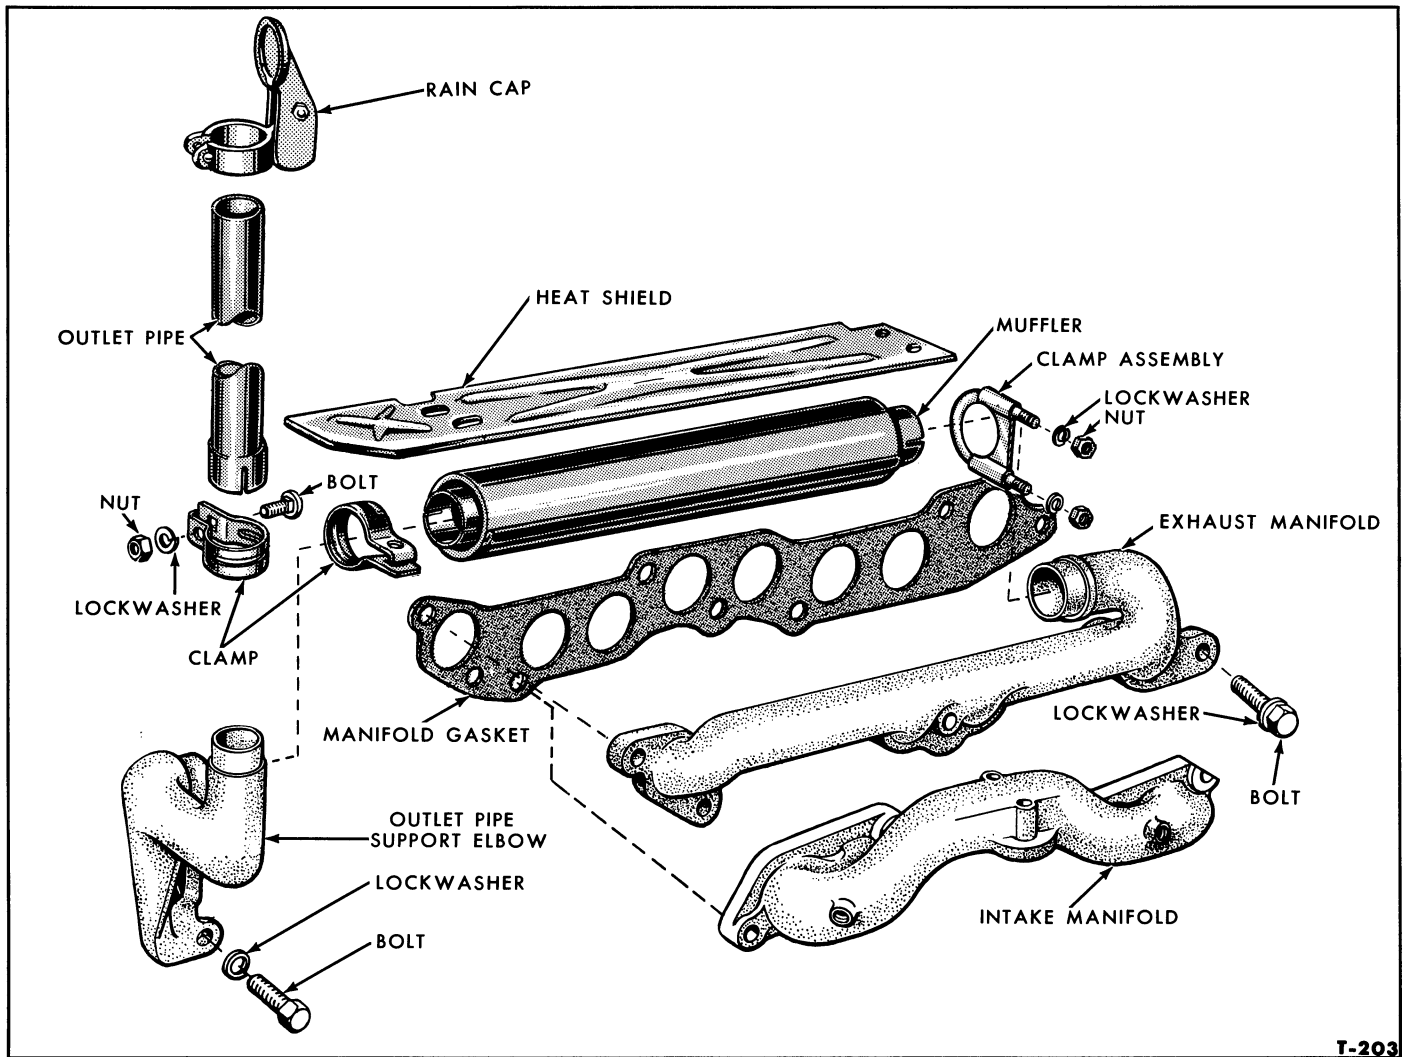

Figure 20—Manifold and Muffler Disassembled
The intake and exhaust manifolds are separate units on the Ford Diesel Tractor. However, a single manifold gasket is utilized for both manifolds. The muffler is mounted directly above the manifolds as shown in Figure 20.
2. Remove the four bolts that attach the heat shield to the fuel tank supports and remove the heat shield, Figure 20.